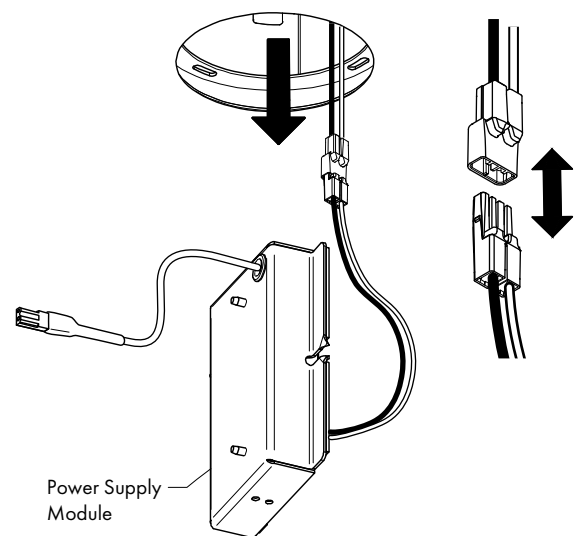

FIG 8.4 Remove Power Supply Module
STEP 3 Pull Power Supply Module through ceiling aperture & disconnect Power Supply wire connectors - **FIG 8.4**.